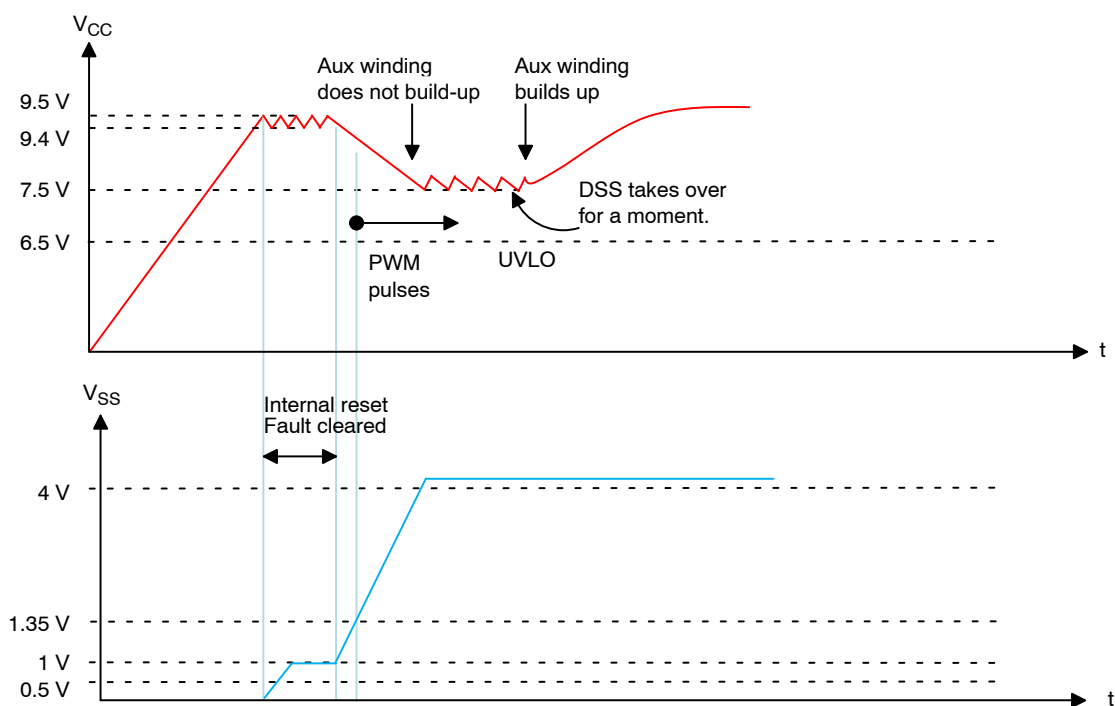

Figure 6. In this Figure, the V_{CC} Capacitor is Small and is Getting Help from the DSS until the Auxiliary Voltage Eventually Takes Off
and the DSS is activated. This is what Figure 6 shows. DSS takes over until V_{CC} aux builds up. Again, care must be taken to ensure that part power dissipation remains within acceptable limits.
If power dissipation is under control during start up, you can reduce the capacitor value given by (3) and implement the start-up scheme shown in Figure 6.